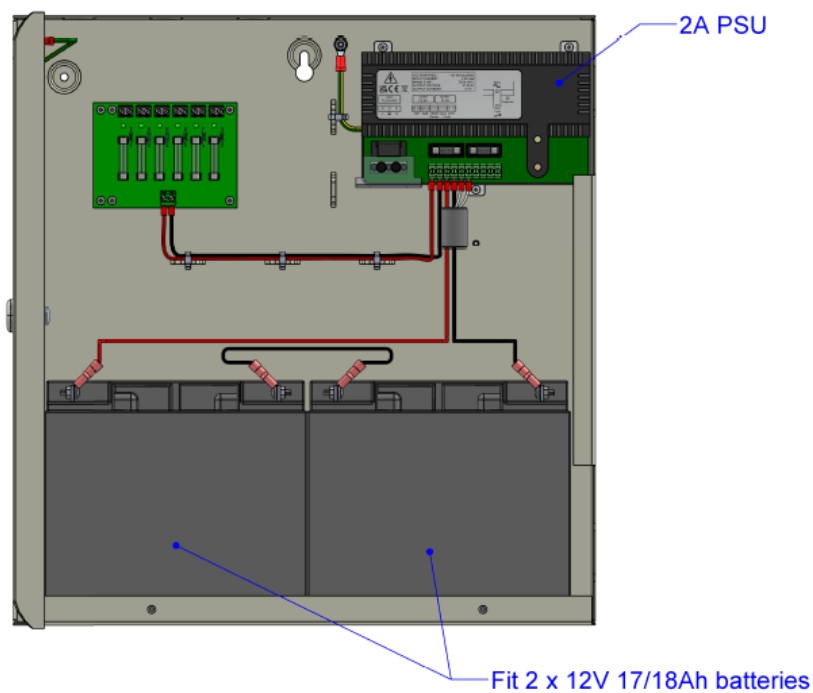

Figure 2 – Battery fitting & assembly
- 10) Mount the appropriate batteries as shown in Figure 2. Where a dual box solution is used all cabling between the two boxes should be routed to use separate case entry/exit holes from other cabling and use suitable bushes to protect the cables.
- 12) Connect the PCB terminals Batt+ and Batt– to the free Positive and Negative terminals of the batteries using the cables provided. See Figure 2 and 3. **With the cable pair ALREADY screwed into the battery terminals the FINAL connection MUST be to the battery itself.**